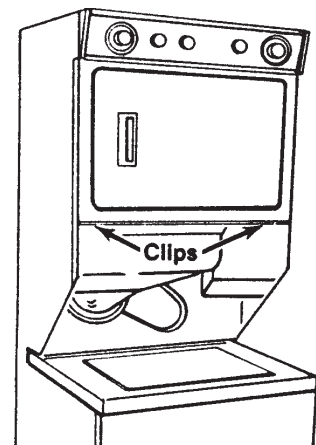

Fig. 5-24
1. Remove the Transition Panel by removing the three (3) retaining screws.
2. Using a putty knife, release the two (2) retaining clips and remove the toe panel. (Fig. 5-24)